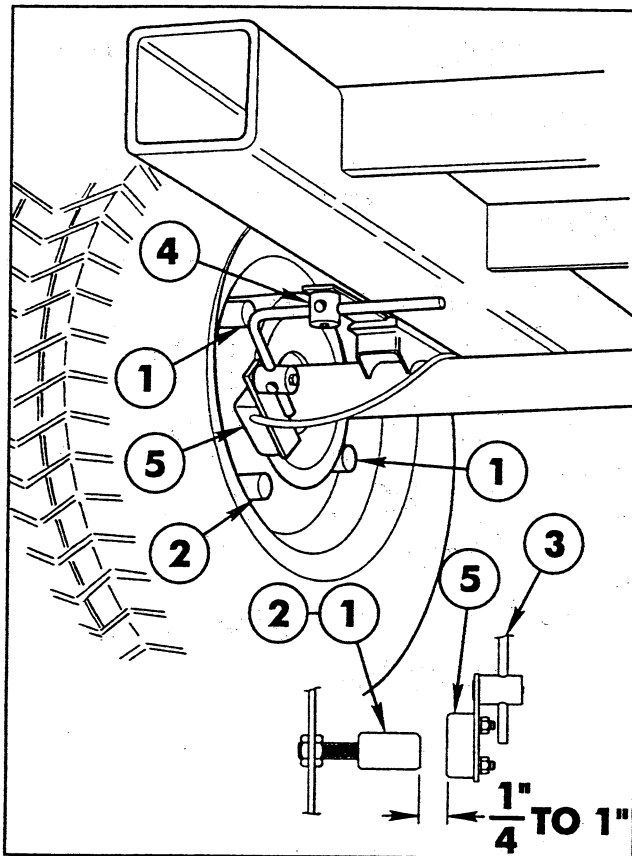

FIG. 5
1. Mount the four (4) Wheel Magnets to the inside rim of the Vehicle's left rear wheel with eight (8) hex nuts and four (4) lock washers as shown in FIG. 5. **IMPORTANT!** Magnets must be mounted in alternating red-black sequence.